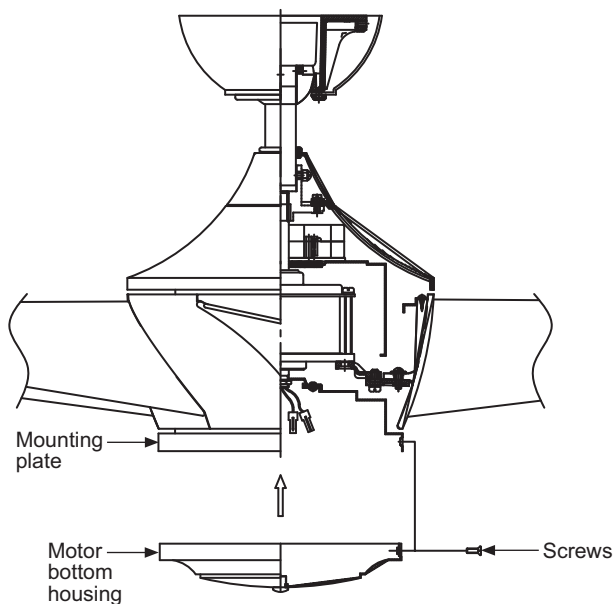

Fig. 18
Step 1. Loosen the three mounting screws on the inside of the motor bottom housing. (Fig. 18)
Step 2. Place the key holes on the motor bottom housing over the 2 screws previously loosened from the mounting plate, turn the motor bottom housing until it locks in place at the narrow section of the key holes. Secure by tightening all three screws. (Fig.18)